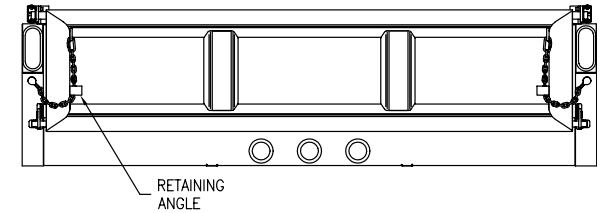

FIGURE 7
3. The amount the tailgate will open bottom up can be limited by using the tailgate chains. In limiting the amount the tailgate opens bottom up, a chain on each side of the tailgate is run first through its respective tailgate retaining angle and then to its respective chain slot located on the rear corner post as shown in Figure 7.